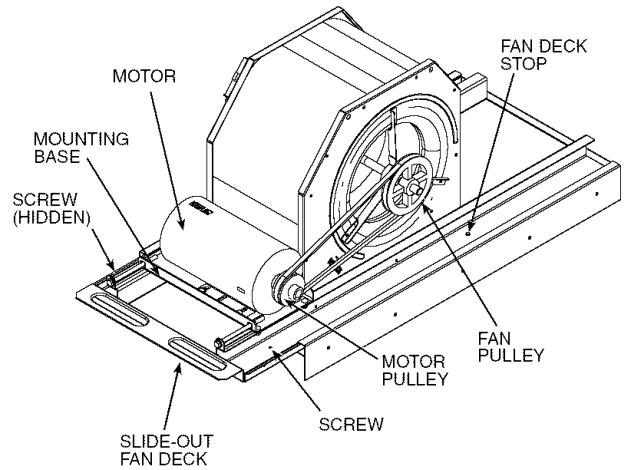

Fig. 27 — Evaporator-Fan Motor Adjustment
3. Remove two no. 10 screws at front of slide-out fan deck. Save screws. See Fig. 27.
Evaporator Fan Performance Adjustment (Fig. 27 and 28) — Fan motor pulleys are factory set for speed shown in Table 33.
4. Move motor mounting plate to adjust to proper belt tension. Motor adjuster bolts may be used to tighten belts. See Fig. 27. Do not overtighten belt.